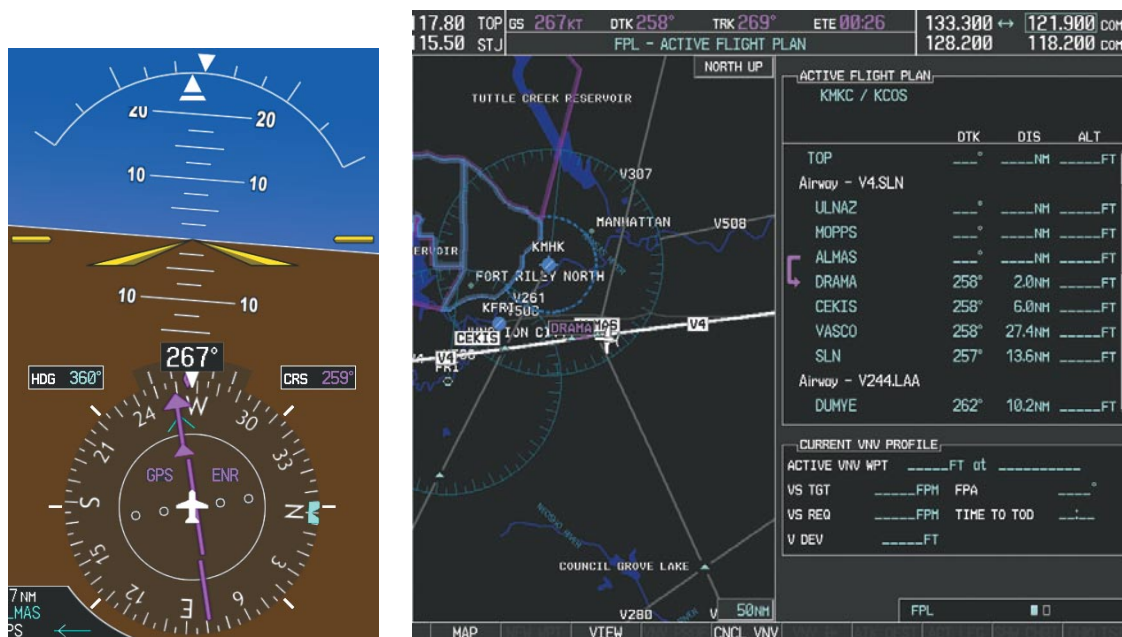

Figure 5-116 Turn on to Active Leg
- 7) As the CDI approaches center, the aircraft turns onto the active leg as seen in Figure 5-116.